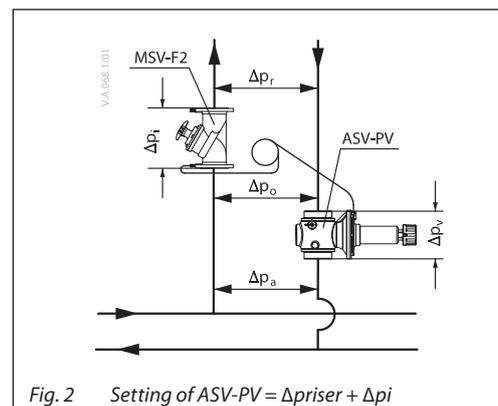

Fig. 2 Setting of ASV-PV =  $\Delta p_{riser} + \Delta p_i$
- partner valve inside control loop (Fig. 2). Offers flow limitation on the riser however part of the controlled pressure range is used by pressure drop on partner valve ( $\Delta p_i$ ). It is recommended when flow limitation on each terminal unit is not possible.